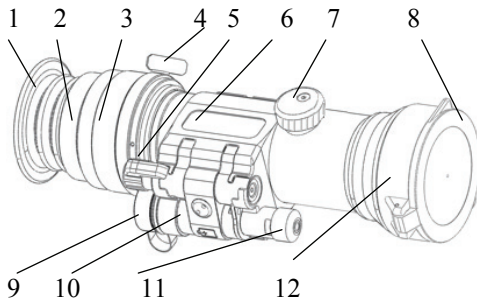

Fig.1 Configuration 1
If necessary, screw the corresponding threaded adapter in the thread on the adapter ring (2) (Fig.1).